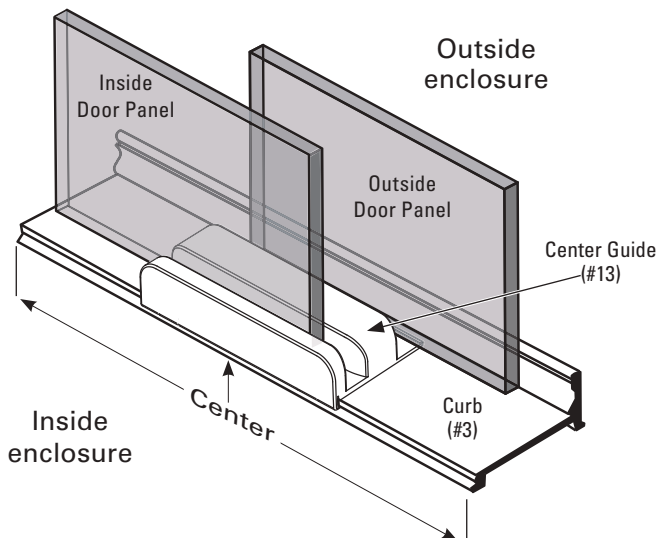

Figure 11a
C. Slide both Door Panels to one side. Peel the paper backing off the two-way tape on the bottom of the Center Guide. Without letting the adhesive tape touch the Curb OR accidentally pressing down or locking the Center Guide into place, carefully insert the front edge of the Center Guide into the groove in the Curb and slide the Center Guide under the two Door Panels. Center the Center Guide on the pencil mark you made (See **Figure 11a**).